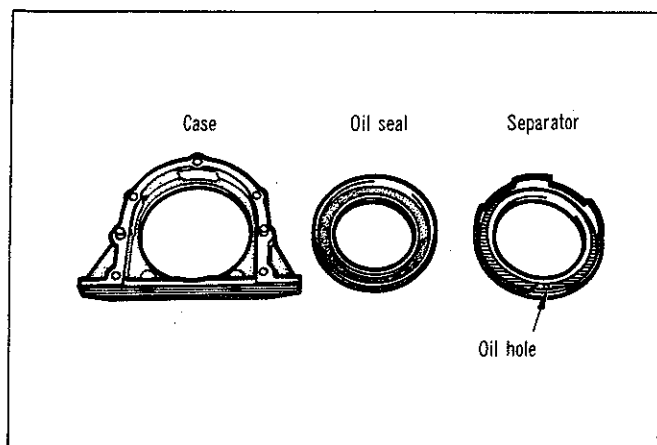
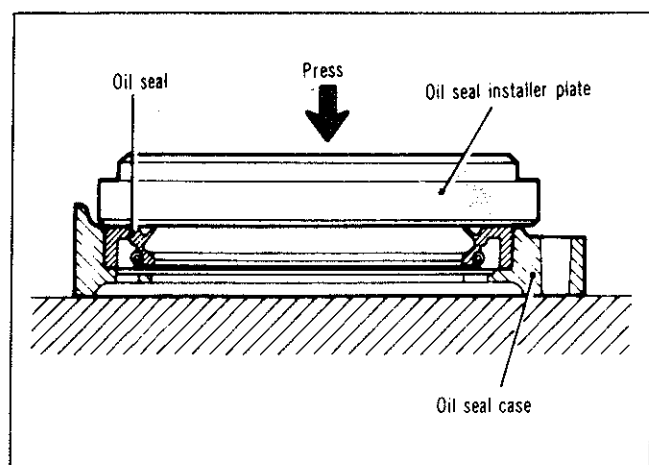

Fig. 82—Rear crankshaft seal assembly (early type)
Fig. 84—Installing oil seal into case (late type)
- (11) Install the connecting rod caps in the correct order, with the cylinder number marks on the cap, aligned with the numbers on the connecting rod. Tighten the cap bolts to the specified torque.
- (12) Check the connecting rod big-end side clearance.
- (13) Install the crankshaft rear oil seal case. If the oil seal has been removed from the case, install a new oil seal to the case, ensuring it is properly seated into the case and that the oil hole in the separator faces the bottom of the case (refer Figs. 82 and 83). The use of Tool E9M60 will ensure correct installation of the seal. Later models are not fitted with the separator and have the seal fitted from the rear of the case (refer Fig. 84).
- (14) Install the flywheel (or torque converter drive plate) tightening the bolts to the specified torque. Bend the bolt locking tabs to securely hold the bolts.